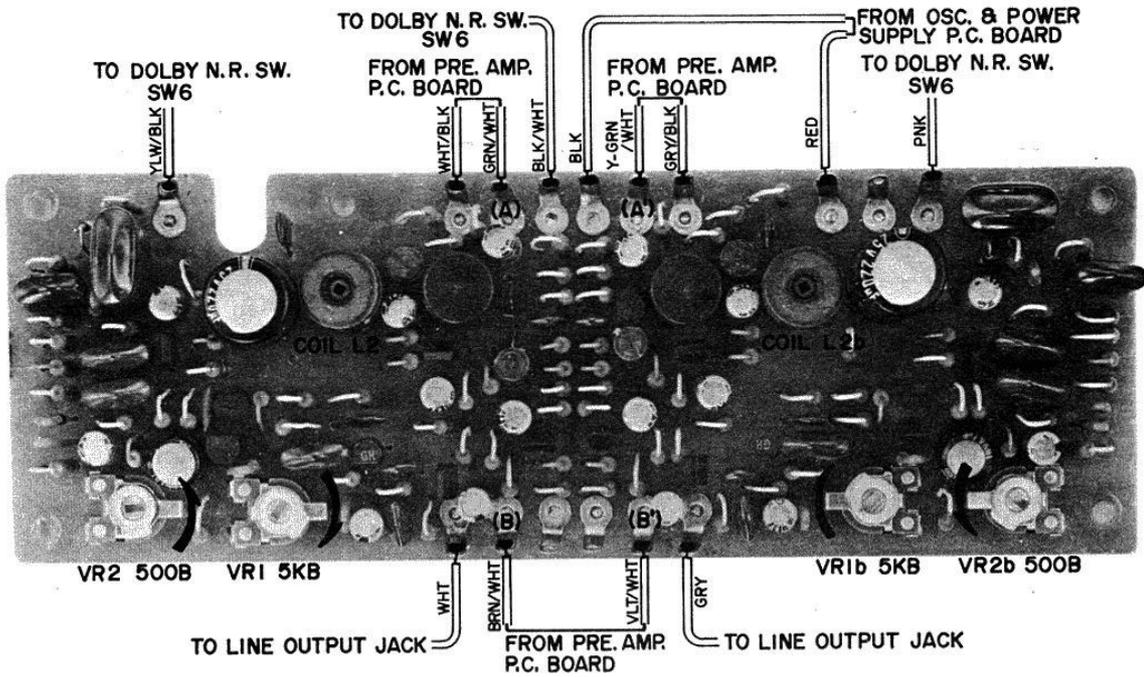

Fig. 18 DOLBY AMP. P.C. BOARD CG-5202 (Face Side)
- b) Turn Dolby N.R. Amp. P.C. Board Dolby Amp. Gain Adjustment Semi-fixed Resistors VR2 500 $\Omega$  (left ch.) VR2b 500 $\Omega$  (right ch.) and FET Gate Bias Adjustment Semi-fixed Resistors VR1 5 k $\Omega$  (left ch.) VR1b 5 k $\Omega$  (right ch.) as far as they will go in the direction of the arrows shown in Fig. 18.
- f) At this condition, further adjust the Attenuator so that the line output level at Point (A) shown in Fig. 18 is  $-28.5$  dB. At this time, confirm that the level at Point (B) shown in Fig. 18 is  $-28.5 \pm 0.5$  dB.
- g) Turn Dolby Switch SW6 to ON position. At this time, adjust Dolby Amp. Gain Adjustment Semi-fixed Resistors VR2 500 $\Omega$  (left ch.) VR3b 500 $\Omega$  (right ch.) until the voltage at Point (B) shown in Fig. 18 is increased by 10 dB.
- h) Disconnect ground from Test Point "TP" (FET Gate). At this time, adjust FET Gate Bias Adjustment Semi-fixed Resistors VR1 5 k $\Omega$  (left ch.) VR1b 5 k $\Omega$  (right ch.) so that the voltage at Point (B) shown in Fig. 18 is reduced by 2 dB.